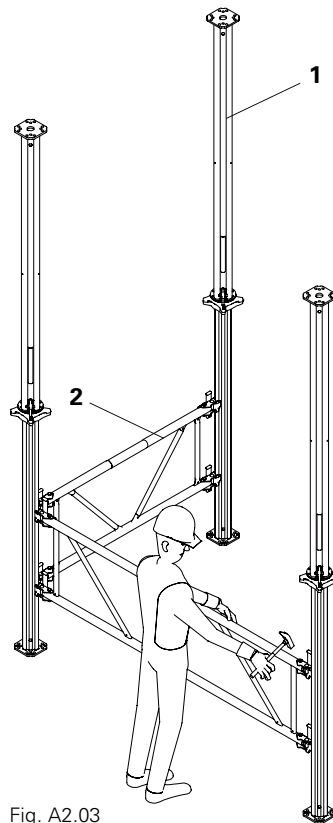

Fig. A2.03
Always mount the Frames MRK (2) to the Props (1) so that the wedge can be hit into position from top to bottom. (Fig. A2.03)